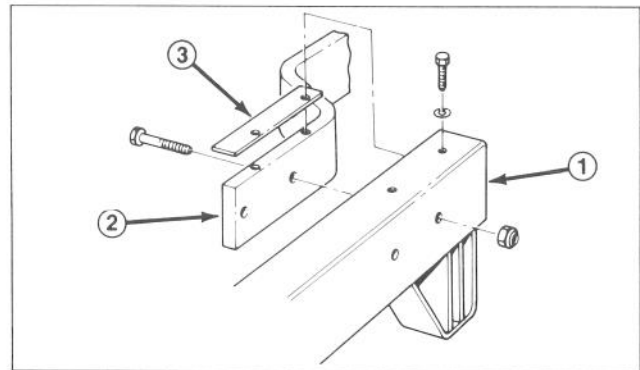

Figure 2
1. Align carrier frame mounting holes with mounting holes in traction frame, while positioning shim on top of traction frame and aligning mounting holes (Fig. 2).
2. Secure each side with (2) 3/8-16 x 1-3/4" lg. cap screws and locknuts. Locknuts must be positioned outside carrier frame.
3. Secure top of each carrier frame and shim to traction frame with (2) 3/8-16 x 7/8" lg. patch lock